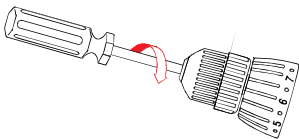

Fig. 12
6. Remove the chuck screw using a #2 ⊕ screwdriver (Fig. 12).